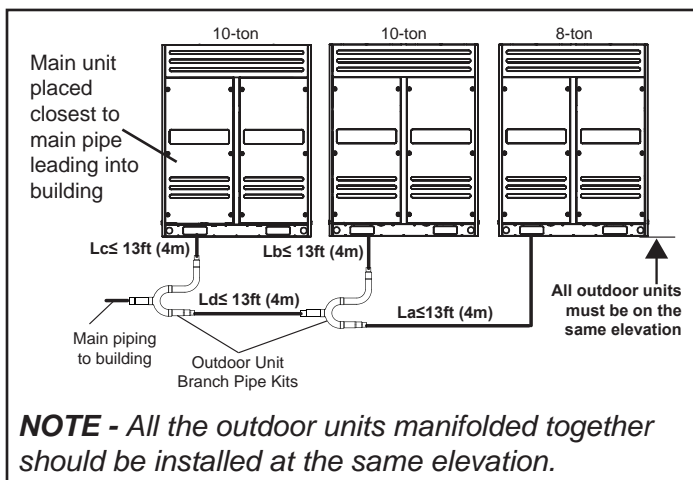

Figure 8. Main/Sub Unit Placement (28-Ton System Example)
- A VRF system consisting of more than two outdoor units, must be placed in order from the largest to the smallest capacity. See figure 8.
- The largest capacity outdoor unit must be installed closest to the main pipe leading into the building. See figure 8.
- The largest capacity outdoor unit address is the main unit, while the others are the sub units. See figure 8.